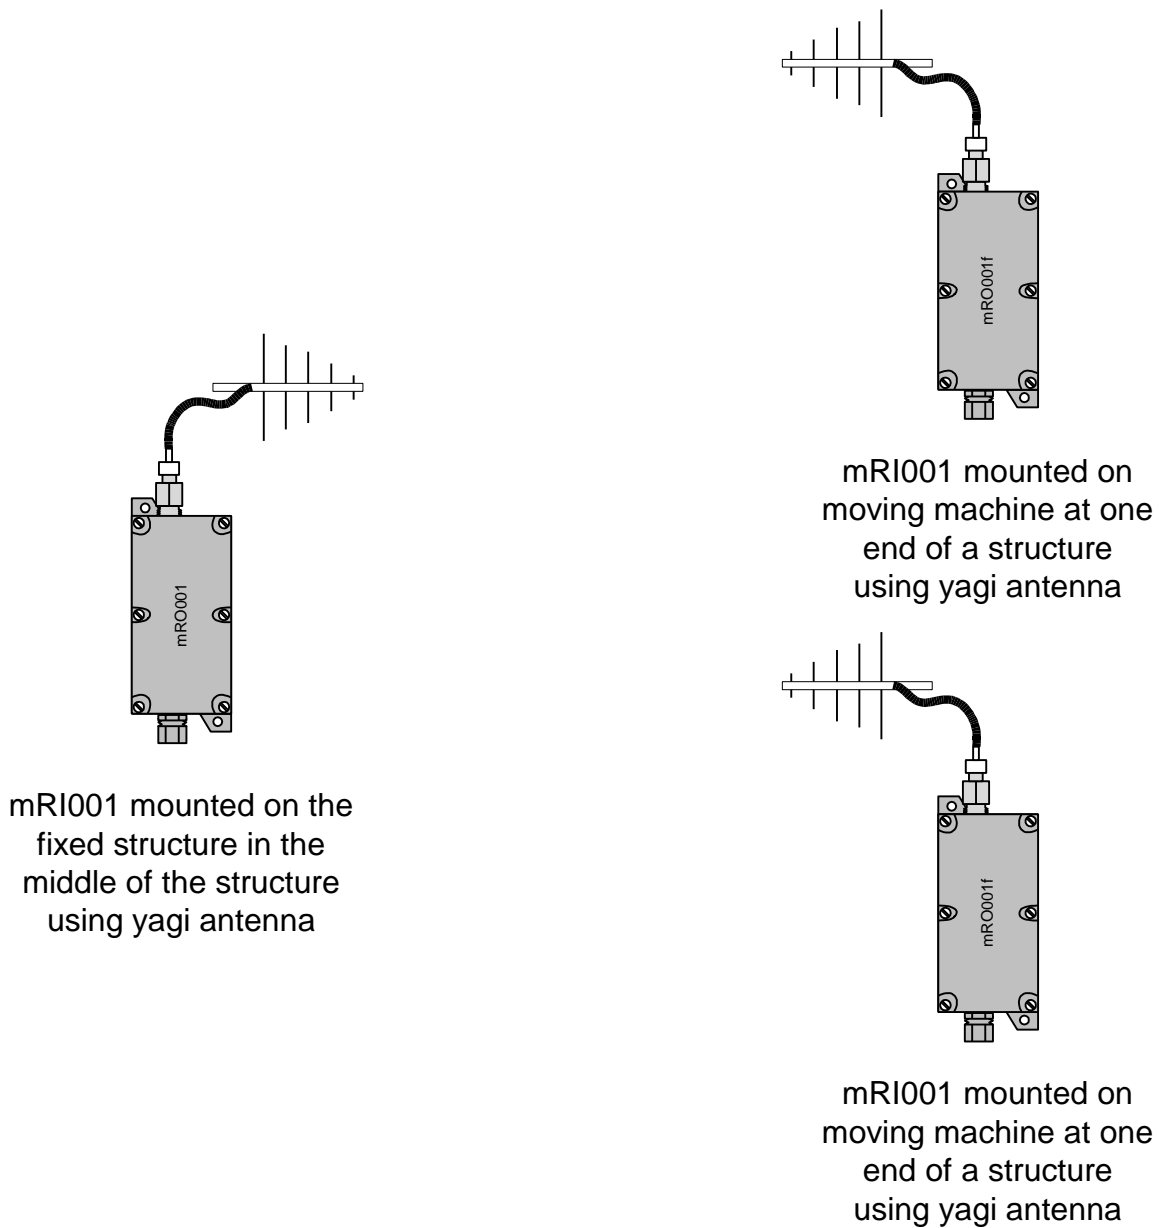

Figure 6 – Typical Antenna Selection, Master Station at One End Configuration
- Figure 6 – Typical Antenna Selection, Master Station at One End Configuration9